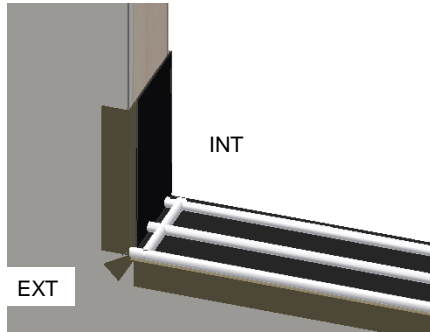

Fig. 14
- b. Apply a 1/4" continuous bead of silicone 1/2" from each side of the rough opening. The bead will run the entire depth of the jamb starting at the face of the wall. (Fig. 14)